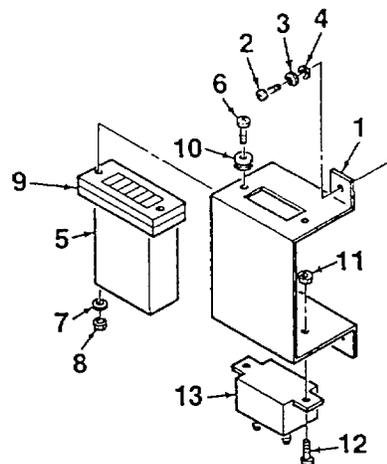

Figure 4-49. Hour Meter (Sheet 1 of 2)
1. Install circuit breaker (13, Figure 4-49) onto bracket (1) using screws (12) and nuts (11).
2. Install hour meter (5) and backing plate (9) onto bracket (1) using screws (6), washers (7), nuts (8), and grommets (10).
3. Install bracket (1) onto APU enclosure using screws (2) and washers (3).
4. Connect electrical wires to hour meter (5) and circuit breaker (13).